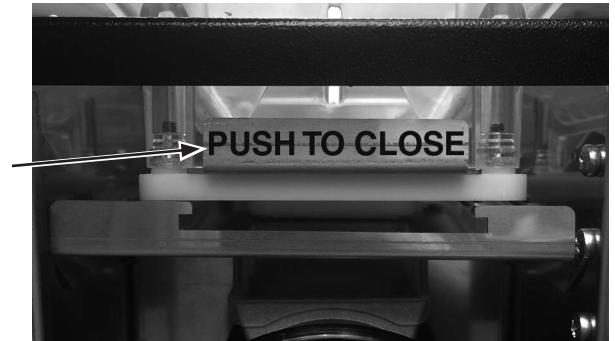

Figure 6
9. Remove the bean hopper from the parts box. Align the bean hopper so that the collar on the bottom of the bean hopper will engage the opening in the grinder as shown in Figure 6.